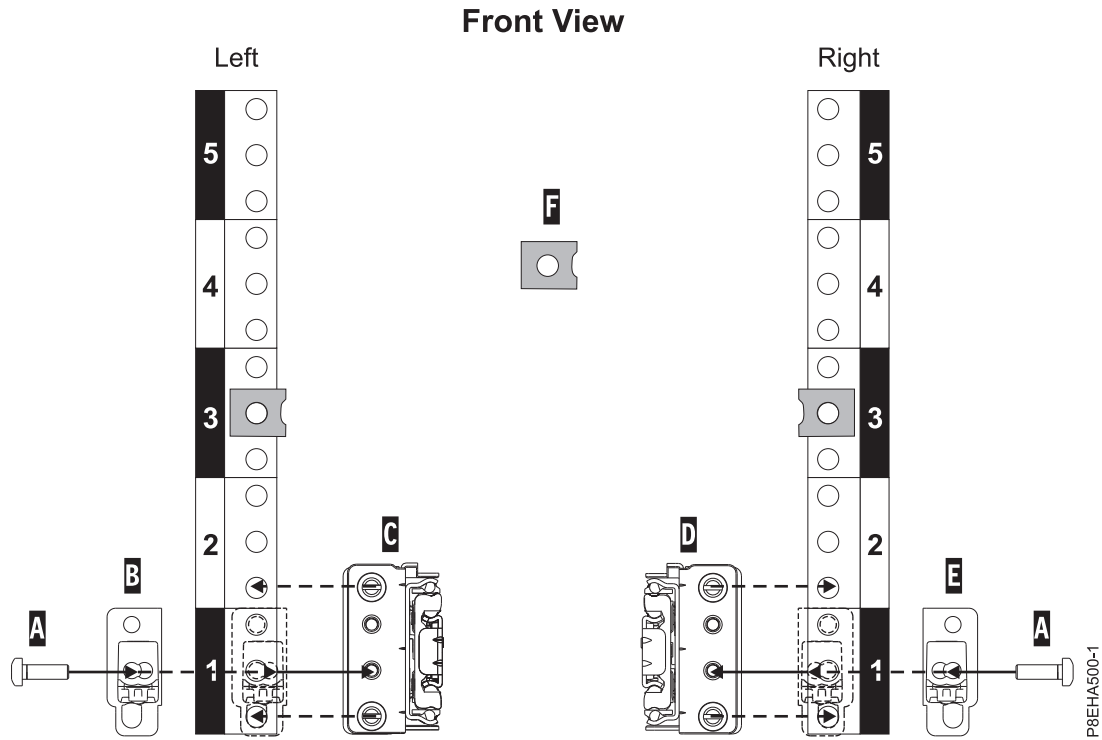

Figure 3. Attaching the slide rails at the front of the rack
3. At the front of the rack, position the left slide rail (C) between the left-side front and rear rack EIA mounting standards as shown in Figure 3 on page 4.
6. Position the slam-latch bracket (B) to cover the front EIA space of the slide rail as shown in Figure 3.
7. Use the T25 hex tool to secure the slam-latch bracket to the front rail flange with one M5 X 16 mm torx socket pan head screw (A) placed in the middle hole (1b) of the EIA rack unit as shown in Figure 3.
8. Repeat steps 2 on page 3 through 7 for the right slide rail (D) as shown in Figure 3. The right slide rail is stamped with an R on the inside front location.
9. Attach the two nut clips (F) to relative EIA locations 3b on both right and left front vertical EIA standards as shown in Figure 3.